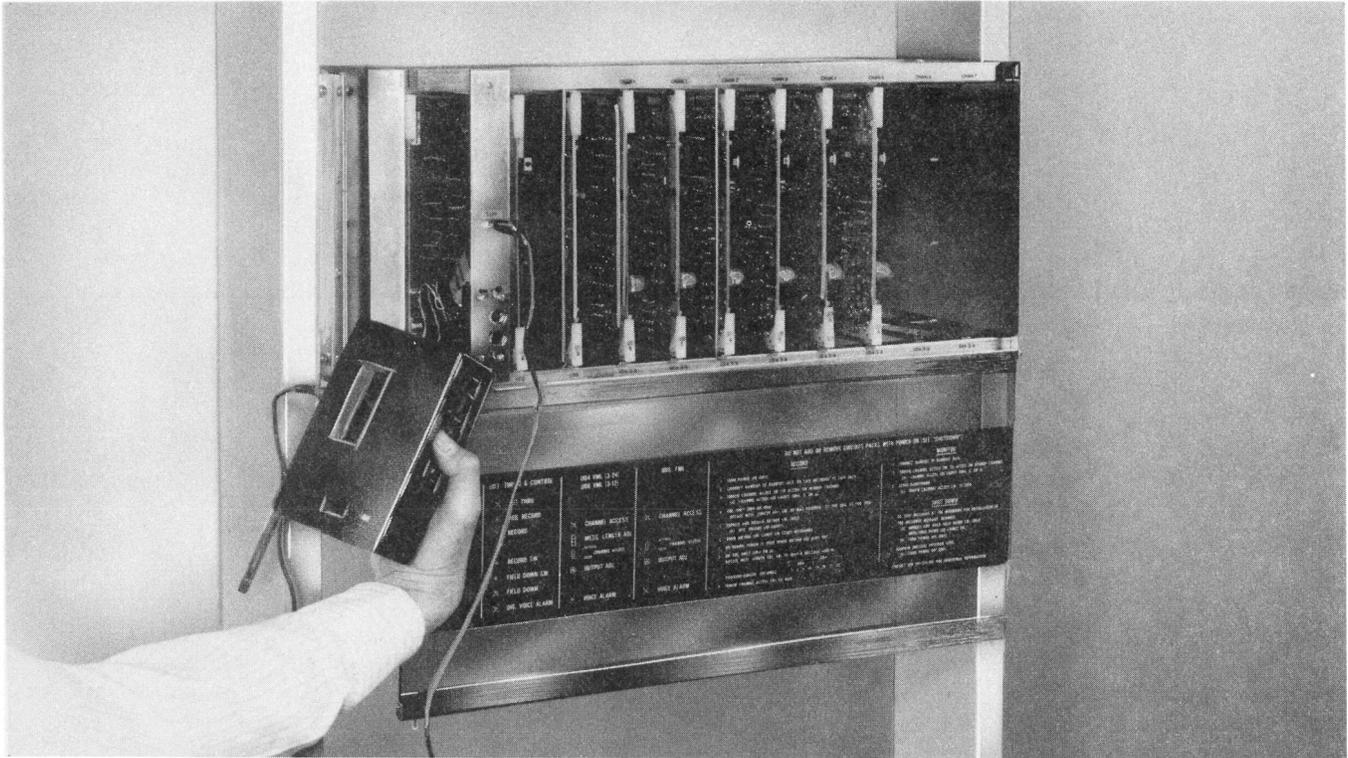

Fig. 2—13A Announcement System (With a Tape Recorder Connected)
**3.03** Recording announcements can be accomplished using either of two methods. The two methods are: locally using handset and locally using TAPE jack (see Fig. 2).